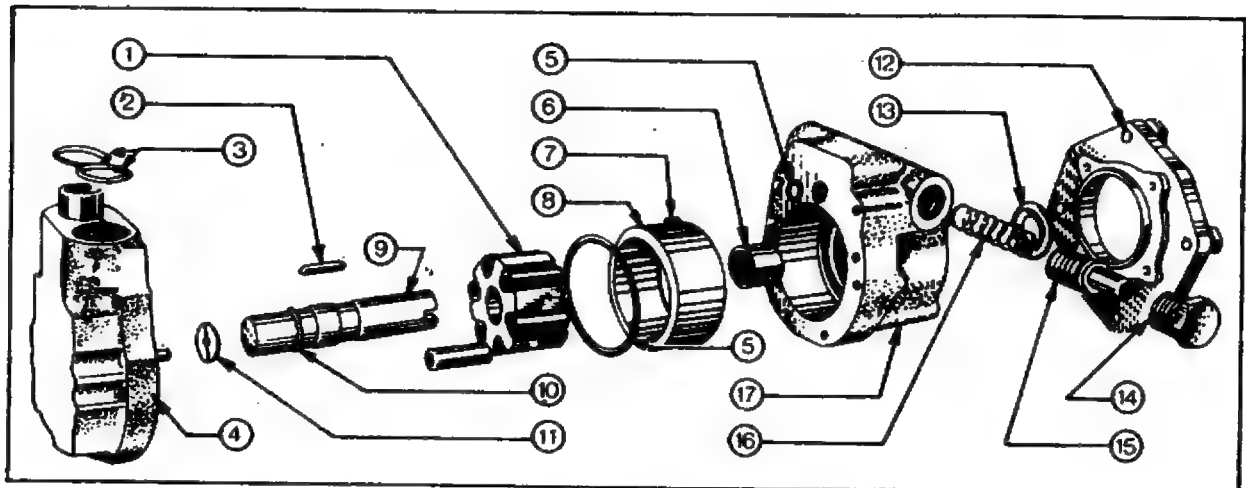

Fig. 18
11. Insert the valve spring in the bore, followed by the valve. Enter the larger end of the valve into the body first (see Fig. 18). It is essential that the valve is correctly fitted or the system will not function.